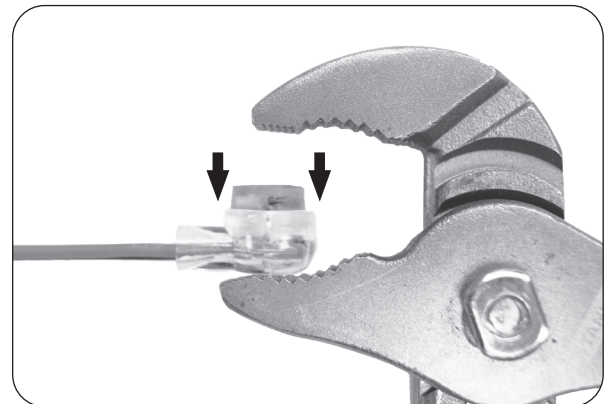

Fig. 2-2 Snap connector closed
b. Ensure the wires are fully inserted into the inlets of the buttsplice connector and using pliers, snap the connector closed. Ensure the connector button is fully pressed down and is flush with the housing. See Fig. 2-2. Give the wires a gentle tug to ensure a proper connection.